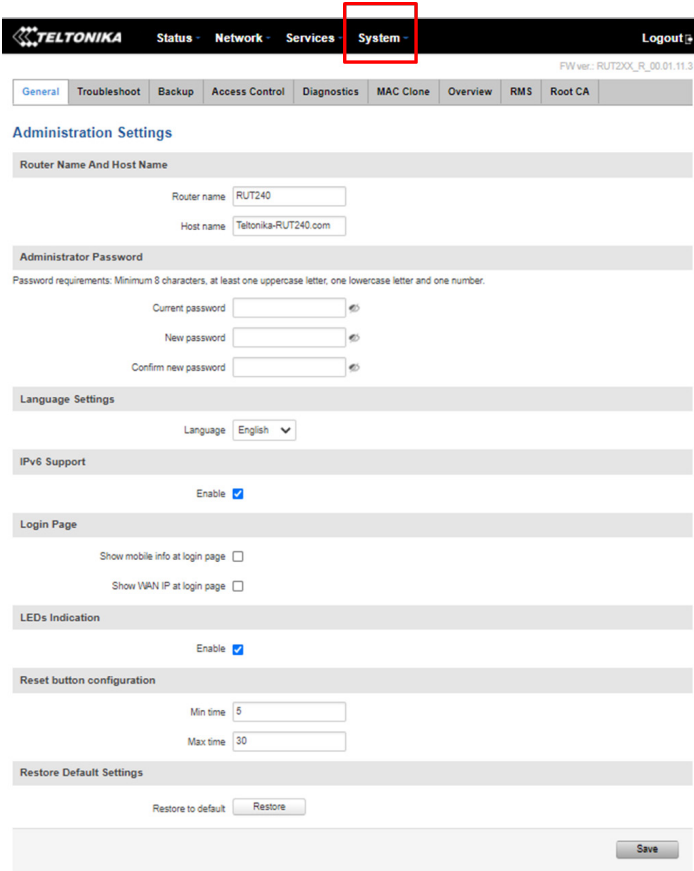

Figure 8 Admin Password Panel
- a. On the per right-hand side of the screen, navigate to **System > Administration**. (Figure 8)